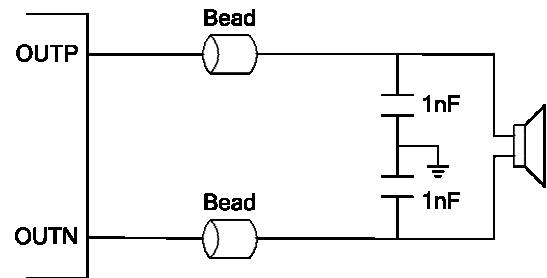

Figure 5. Typical Ferrite Chip Bead Output Filter, Speaker Impedance= 8Ω
4. Output Filter. The ferrite EMI filter (Figure 5)